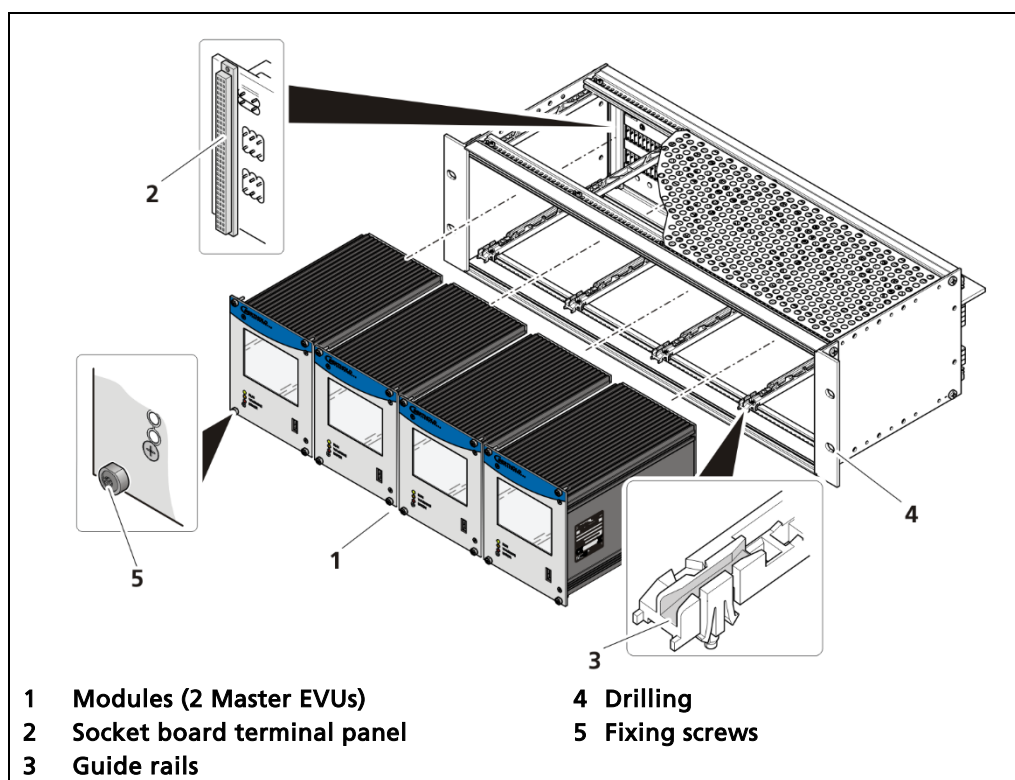

Fig. 14 19" subrack with connection boards (Ex.: 4x Master)
The subrack is installed in a 19" control cabinet or a control panel (switchboard). The 4 side holes (Fig. 14, item 4) that should be provided with fitting screws are used to fasten the subrack.
The master's EVUs / slave modules must be secured against pulling out by fixing screws (Fig. 14, item 5).
1. Insert the module (Fig. 14, item 1) into the guide rails (Fig. 14, item 4).
2. Slide the module carefully into the wall housing until the pin rail on the module is inserted in the socket rail (Fig. 14, item 2).
3. Tighten all the locking screws (Fig. 14, item 5).